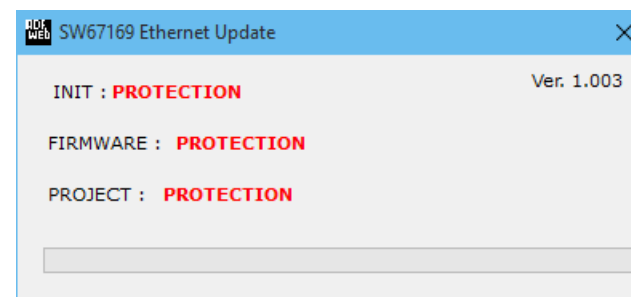

Figure 5: "Protection" window
**Warning:** If Fig. 5 appears when you try to do the Update try these points before seeking assistance: